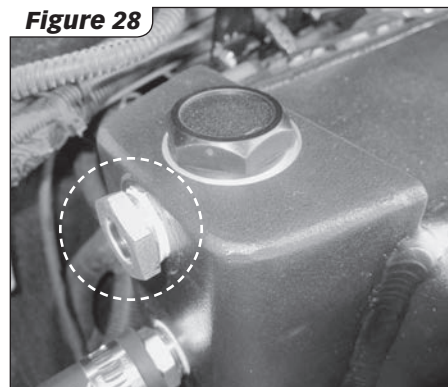

Figure 28
11. Install sight glass (P/N 25417), if not already installed, into Techni-Cooler using 2 layers of thread sealing tape. Tighten 2-3 turns past finger-tight. **See Figure 28**
See Figure 28